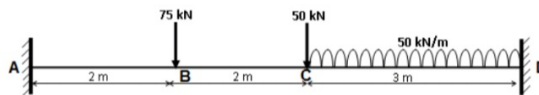

Fig.5
6. Determine the deflection and slope, under the point of action of 50 kN load, of a beam supported and loaded as shown in Fig.5. [15]